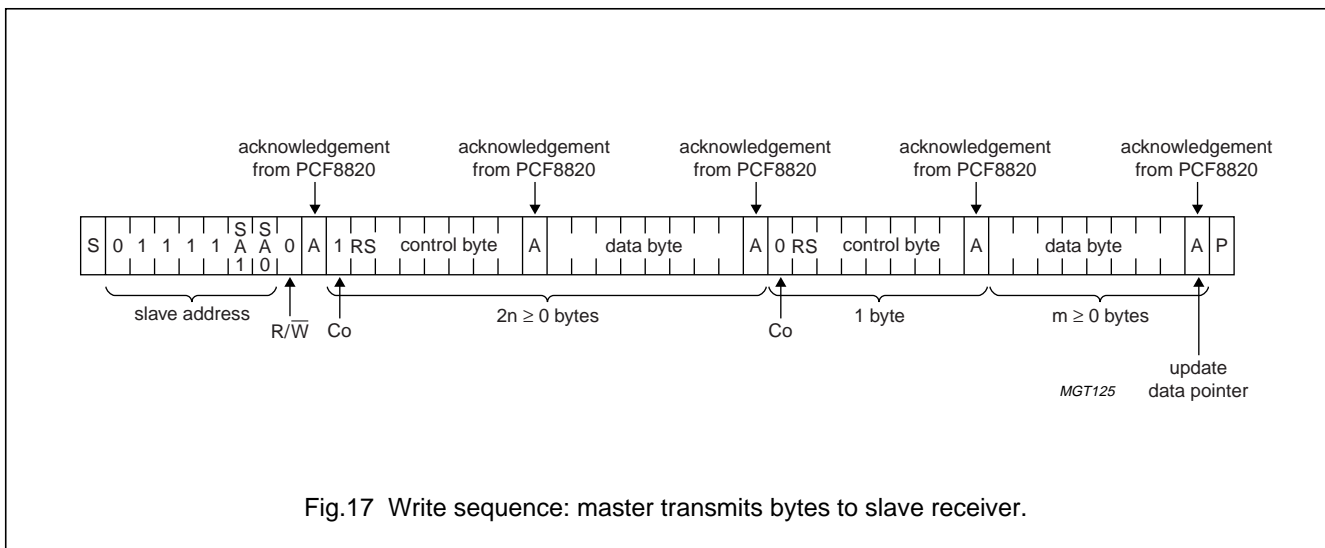

Fig.17 Write sequence: master transmits bytes to slave receiver.
A write sequence (see Fig.17) is initiated with a START condition (S) from the I²C-bus master which is followed by the slave address. Only the addressed slave acknowledges. After acknowledgement, one or more command words follow which define the status of the addressed slave.